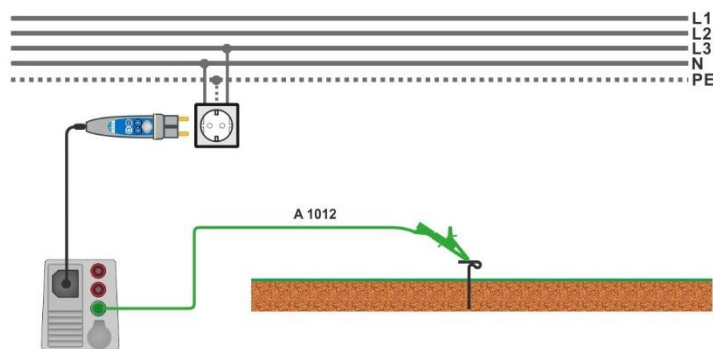

Figure 7.42: Connection for Uc(P) measurement
- › Connect test lead P/S to external earthed point (optional), see **Figure 7.42**.